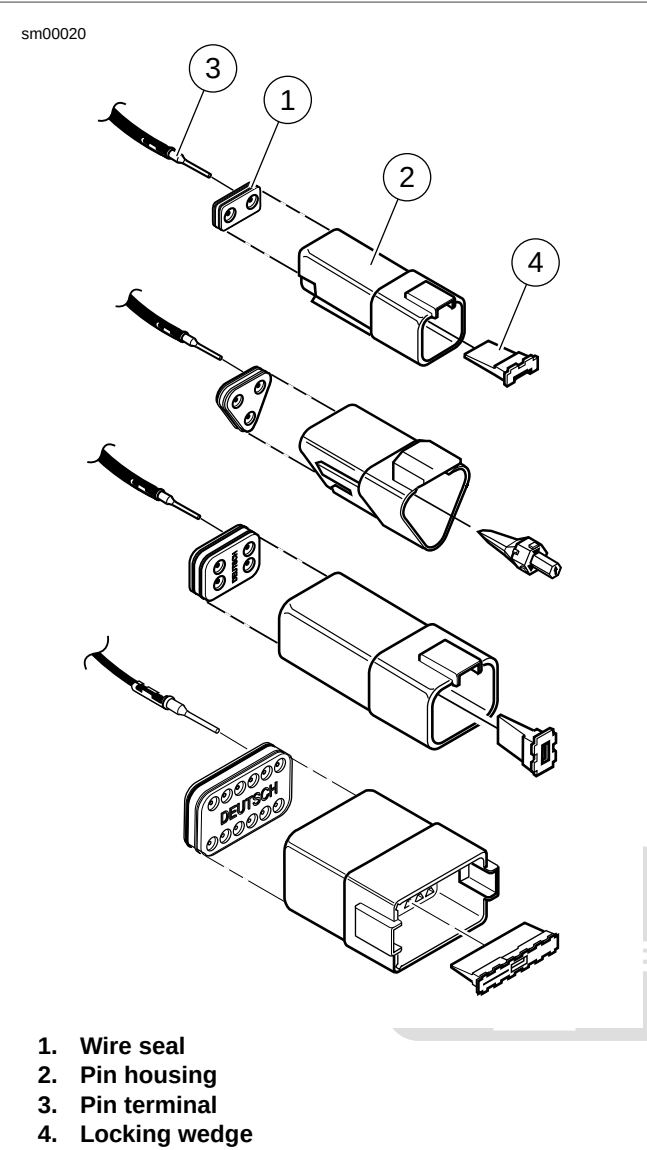

Figure A-31. Deutsch DT Sealed Connector: 2, 3, 4 and 12-Place Pin Housings
1. See Figure A-31. Fit wire seal (1) into back of pin housing (2).
2. Grasp wire lead approximately 1.0 in. (25.4 mm) behind the pin terminal (3). Gently push pin through holes in wire seal into its respective numbered chamber until it "clicks" in place.